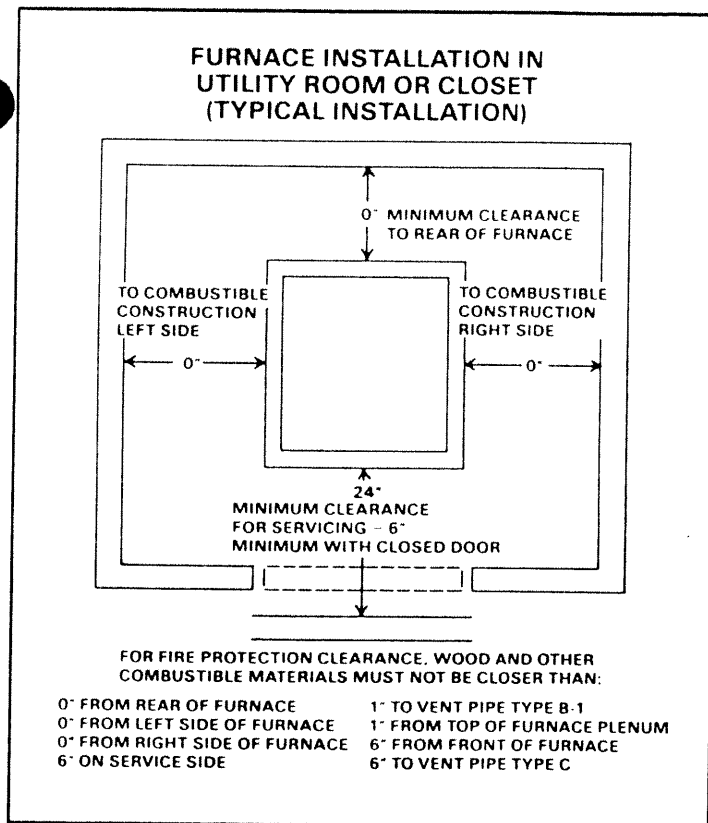

FIGURE 1
2. Do all clearances between the furnace and enclosure equal or exceed the minimums shown in Table 1 and Figures 1 and 2.
3. Is there sufficient space for servicing the furnace and other equipment? A minimum of 24 inches front clearance to the furnace must be provided. Any access door or panel must permit removal of the largest component (See Fig. 1).
4. Are there at least 6 inches of clearance between the furnace combustion air openings in the front panel and any closed panel or door provided? (See Fig. 1)